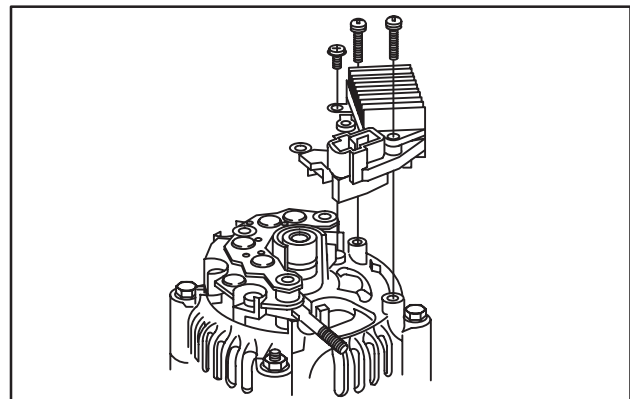

Fig. 39 – Install Regulator
7. Install regulator with three screws shown, Fig. 39.